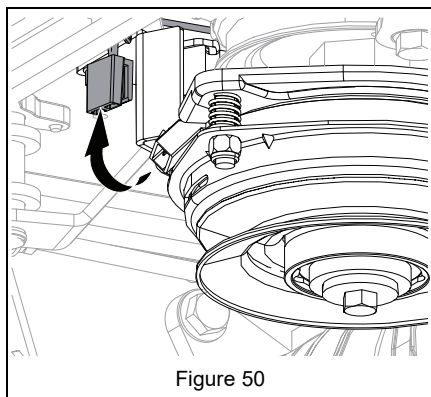

Figure 50
4. Disconnect clutch wire. See Figure 50.